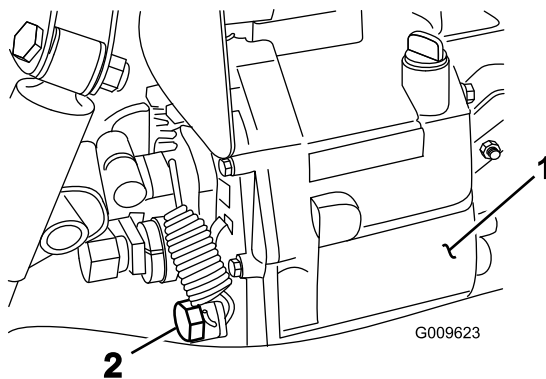

Figure 66
2. Remove the drain plug from the side of the reservoir, and let the hydraulic fluid flow into a drain pan (Figure 66).